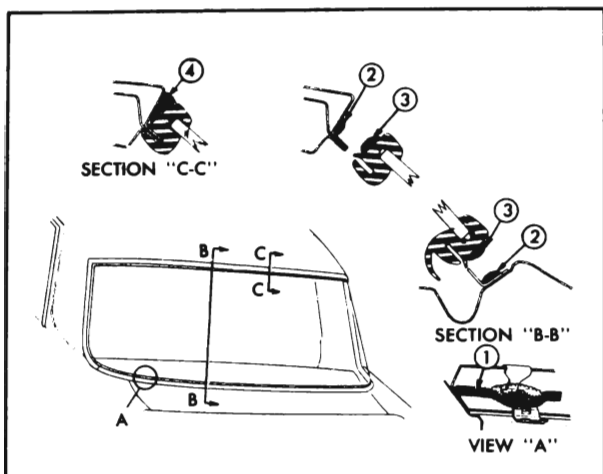

Figure 4-1—Back Window Sealing
2. Check installation of reveal molding clips at pinchweld and retaining flanges and replace clips, where necessary. If replacing clips, apply medium-bodied sealer to opening rabbet, prior to installing clips (see “1” in View “A”, Figure 4-1).
3. Apply a continuous ribbon of medium-bodied sealer (approximately 1/2 inch wide by 1/4 inch thick) on wall of rabbet completely around opening (see “2” in Section “B-B”, Figure 4-1).
5. Apply a continuous ribbon of medium-bodied sealer (approximately 1/2 inch wide by 1/4 inch thick) completely around base of rubber channel (see “3” in Section “B-B”, Figure 4-1).
8. Using a pressure type applicator, apply sufficient medium-bodied sealer to completely fill the wedge shaped opening between rubber channel and body across top of channel (see "4" in Section "C-C", Figure 4-1).